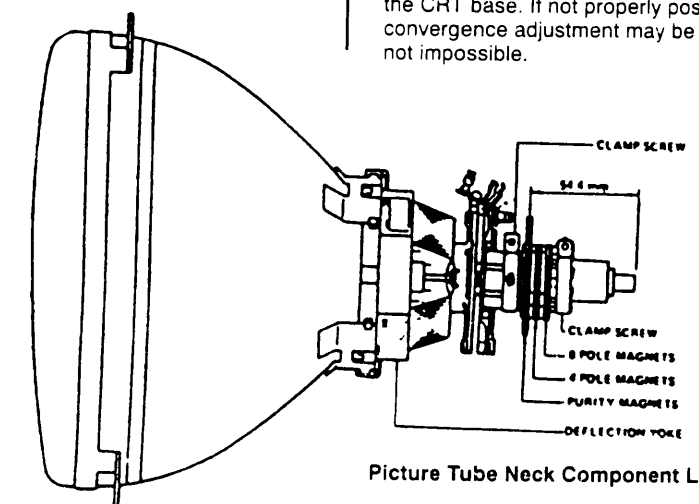

Fig 5.
- 1: Check for correct location of all neck components (refer to fig. 5).
Static Convergence Adjustment (refer to fig. 5 & 6)
Important: Before proceeding check location of the convergence magnet assembly on the neck of the CRT as shown in fig. 5. The rear edge of this assembly must be positioned an inch from the tip of the CRT base. If not properly positioned convergence adjustment may be difficult if not impossible.